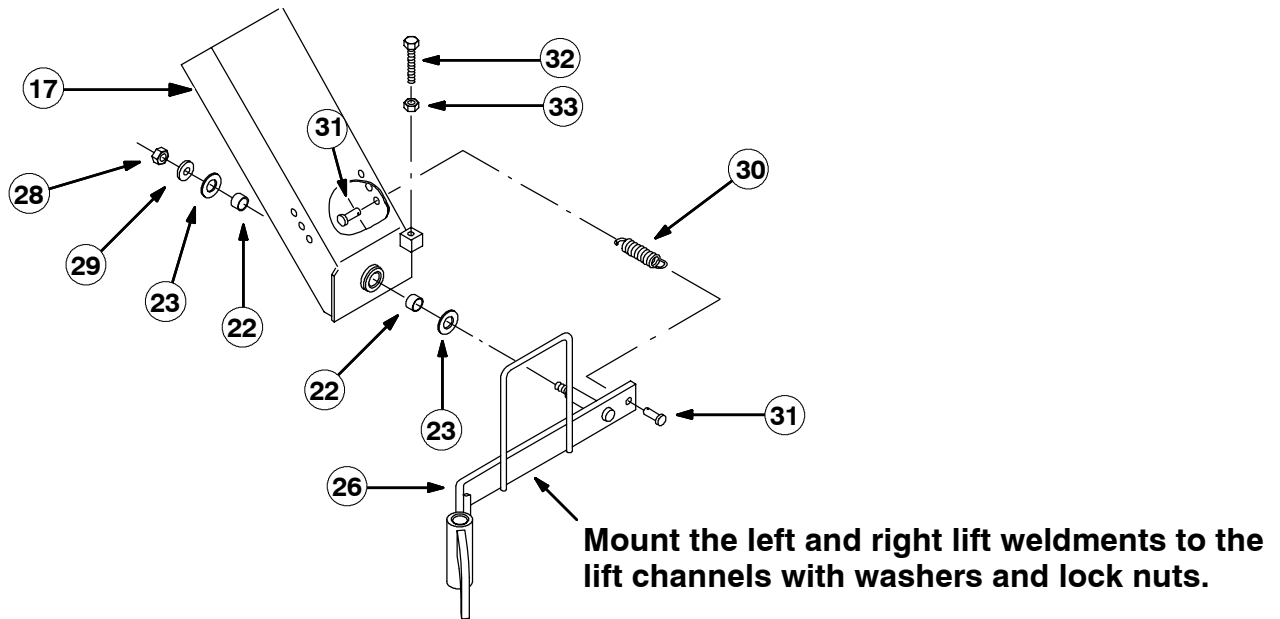

**FIG. 3 - Lift channel installation**
6. Mount the left and right lift channel weldments (17) and (18) to the weldment housing (4) with clevis pins (20) and cotter pins (21). (Refer to FIG. 3 and 7)
7. Install adjustment bolts (24) with jam nuts (25) in through the top of the left and right channel weldment adjustment openings. (Refer to FIG. 3 and 7)